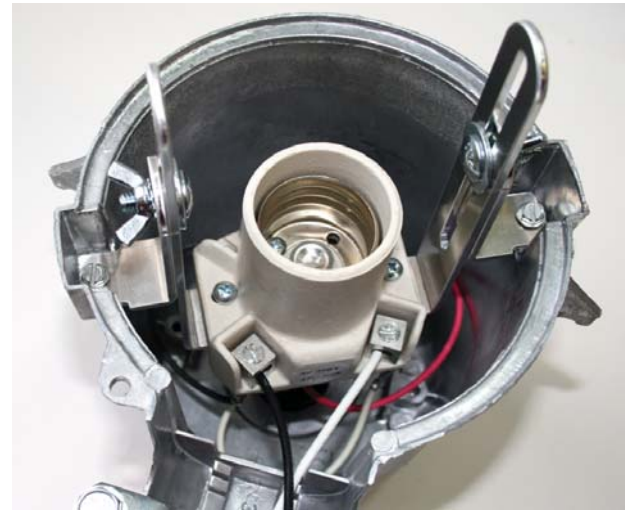

Figure 6. Bracket Kit installed.
4. Secure the new socket and bracket assembly to the housing. Reuse the two screws you removed in Step 1. Figure 6.